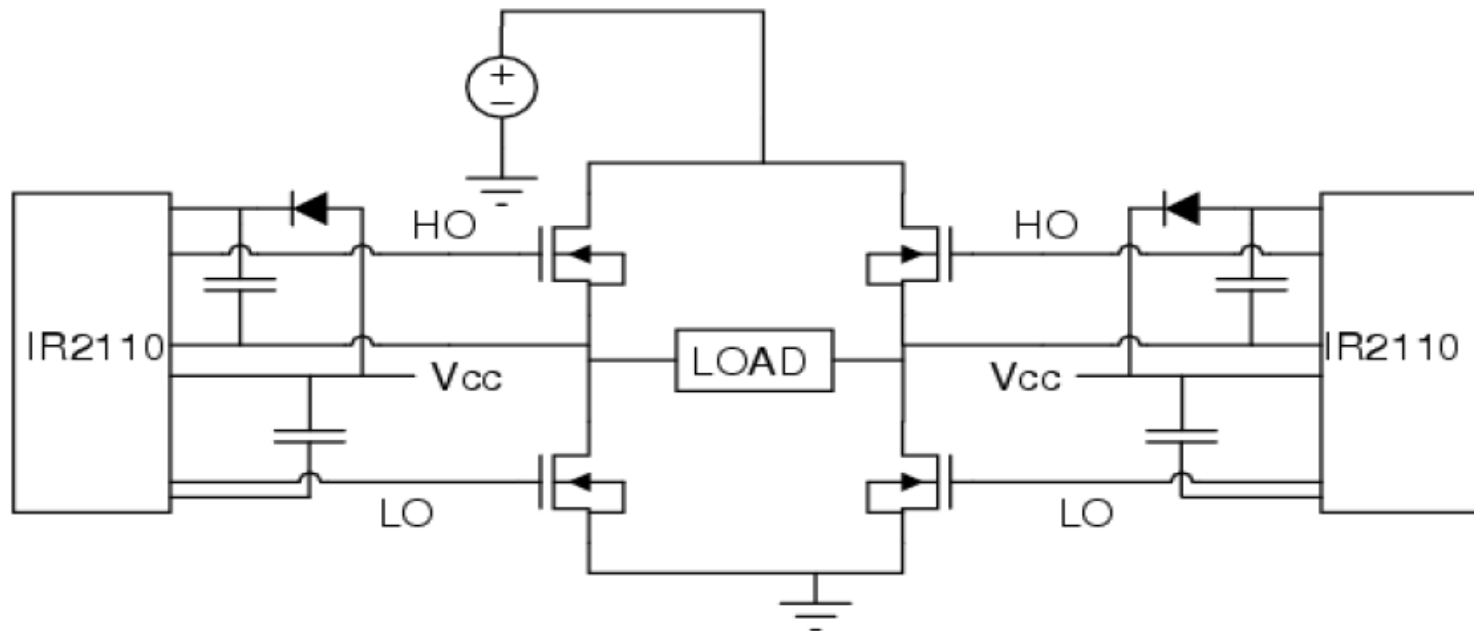

Figure 25: H-Bridge with MOSFET Drivers
- Generating a sine wave centered on zero volts requires both a positive and negative voltage across the load, for the positive and negative parts of the wave, respectively. This can be achieved from a single source through the use of four MOSFET switches arranged in an H-Bridge configuration. To minimize power loss and utilize higher switching speeds, N-Channel MOSFETs were chosen as switches in the bridge. Level translation between PWM signals and voltages requires to forward bias high side N-Channel MOSFETs, the IR2110 MOSFET driver integrated circuit was chosen. A diagram of the H-Bridge circuit with MOSFETS and drivers is shown in Figure 25.